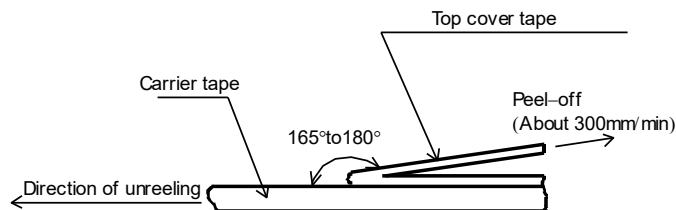
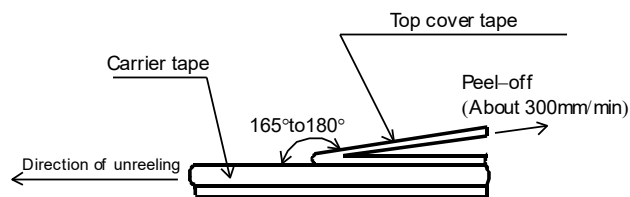
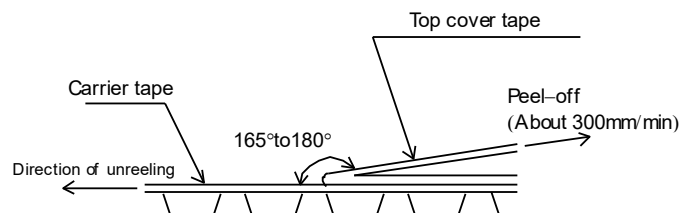

Figure-7
Figure-8
Figure-9
- 5). The peel strength of the top cover tape shall be within 0.1N to 0.5N on the test method as shown in the following RMC06: Figure-7, RMC10, 16, 20, 32: Figure-8, RMC35,50,63: Figure-9.